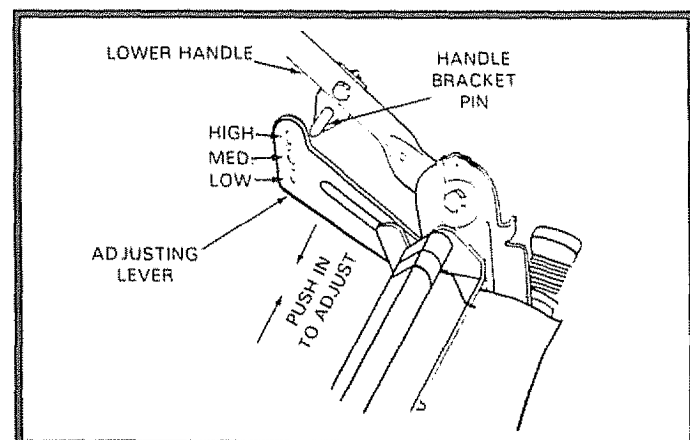

FIG. 28
- The Handle on your lawn mower has three (3) heights - adjust to the height that suits you.
- To adjust the Handle, push in on the Adjusting Levers to clear the Pins (See Fig. 28).